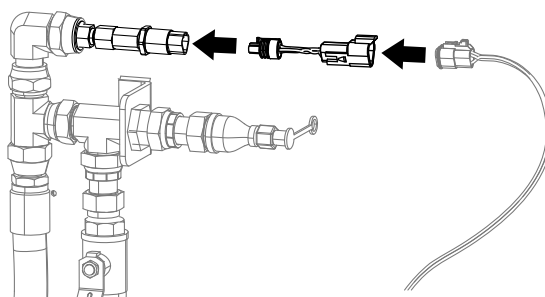

Figure 13
9. If the harness does not fit into the transducer, connect the harness and transducer using the adapter (Figure 13).